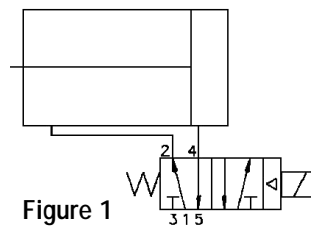

Figure 1
3. Attach tubing according to Figures 1 or 2 below, depending upon application. Attach supply tubing to Port 1 and use Ports 3 and 5 for exhaust.